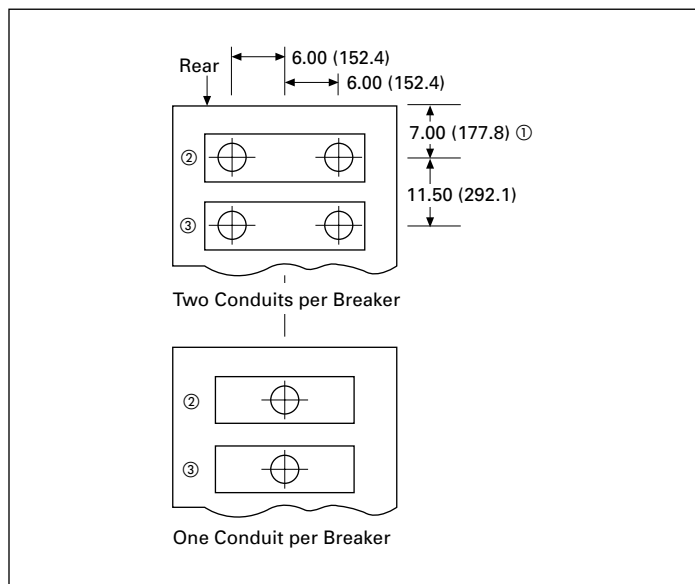

Figure 5.2-14. Primary Conduit Locations for Stacked Breakers
① Power cable entrance area. Refer to **Figure 5.2-14** for typical conduit locations. Refer to shop drawings for order specific locations.
- ② Power cable entrance area. Refer to **Figure 5.2-14** for typical conduit locations. Refer to shop drawings for order specific locations.
- ③ Recommended minimum clearance to rear of VacClad-W.
- ④ Floor steel, if used, must not exceed this dimension under VacClad-W.
- ⑤ Anchor locations: 5A and 5B for seismic applications, 5A only for non-seismic application. For indoor, use 0.5-inch (12.7 mm) bolts or weld.
- ⑥ Station ground connection provision.
- ⑦ Secondary conduit space: All—maximum of 1.00-inch (25.4 mm) projection.
- ⑧ Minimum clearance to LH side of VacClad-W. Minimum clearance to RH side of the switchgear: 6.00 inches (152.4 mm).
- ⑨ Finished foundation surface shall be level within 0.06-inch (1.5 mm) in 36.00 inches (914.4 mm) left-to-right, front-to-back, and diagonally, as measured by a laser level.
- ⑩ Minimum clearance to front of VacClad-W.